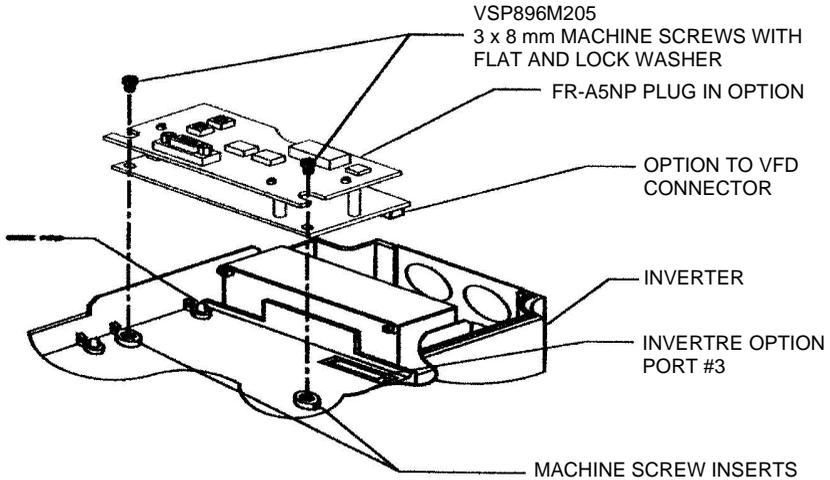

Figure 2-1. Option Unit Aligned with Option Port #3
- (1) Insert this option unit only into the OPTION PORT# 3 of the inverter.
- (2) Carefully insert the connector of the option unit into the connector of the inverter as shown in Figure 2-1. Use the two mounting holes and the guide hole to align the bottom board with the matching machine screw inserts and the plastic guide pin on the inverter. Also be sure to fit the unit into the option fixing hook (It is available in Aug., 2000). Make sure that the inverter option is firmly seated in the inverter and the connector is fully plugged in.
- (3) Secure the option unit to the inverter with two mounting screws. If the screw holes in the option unit do not line up with the inverter mounting holes, check that the connectors have been fitted correctly.